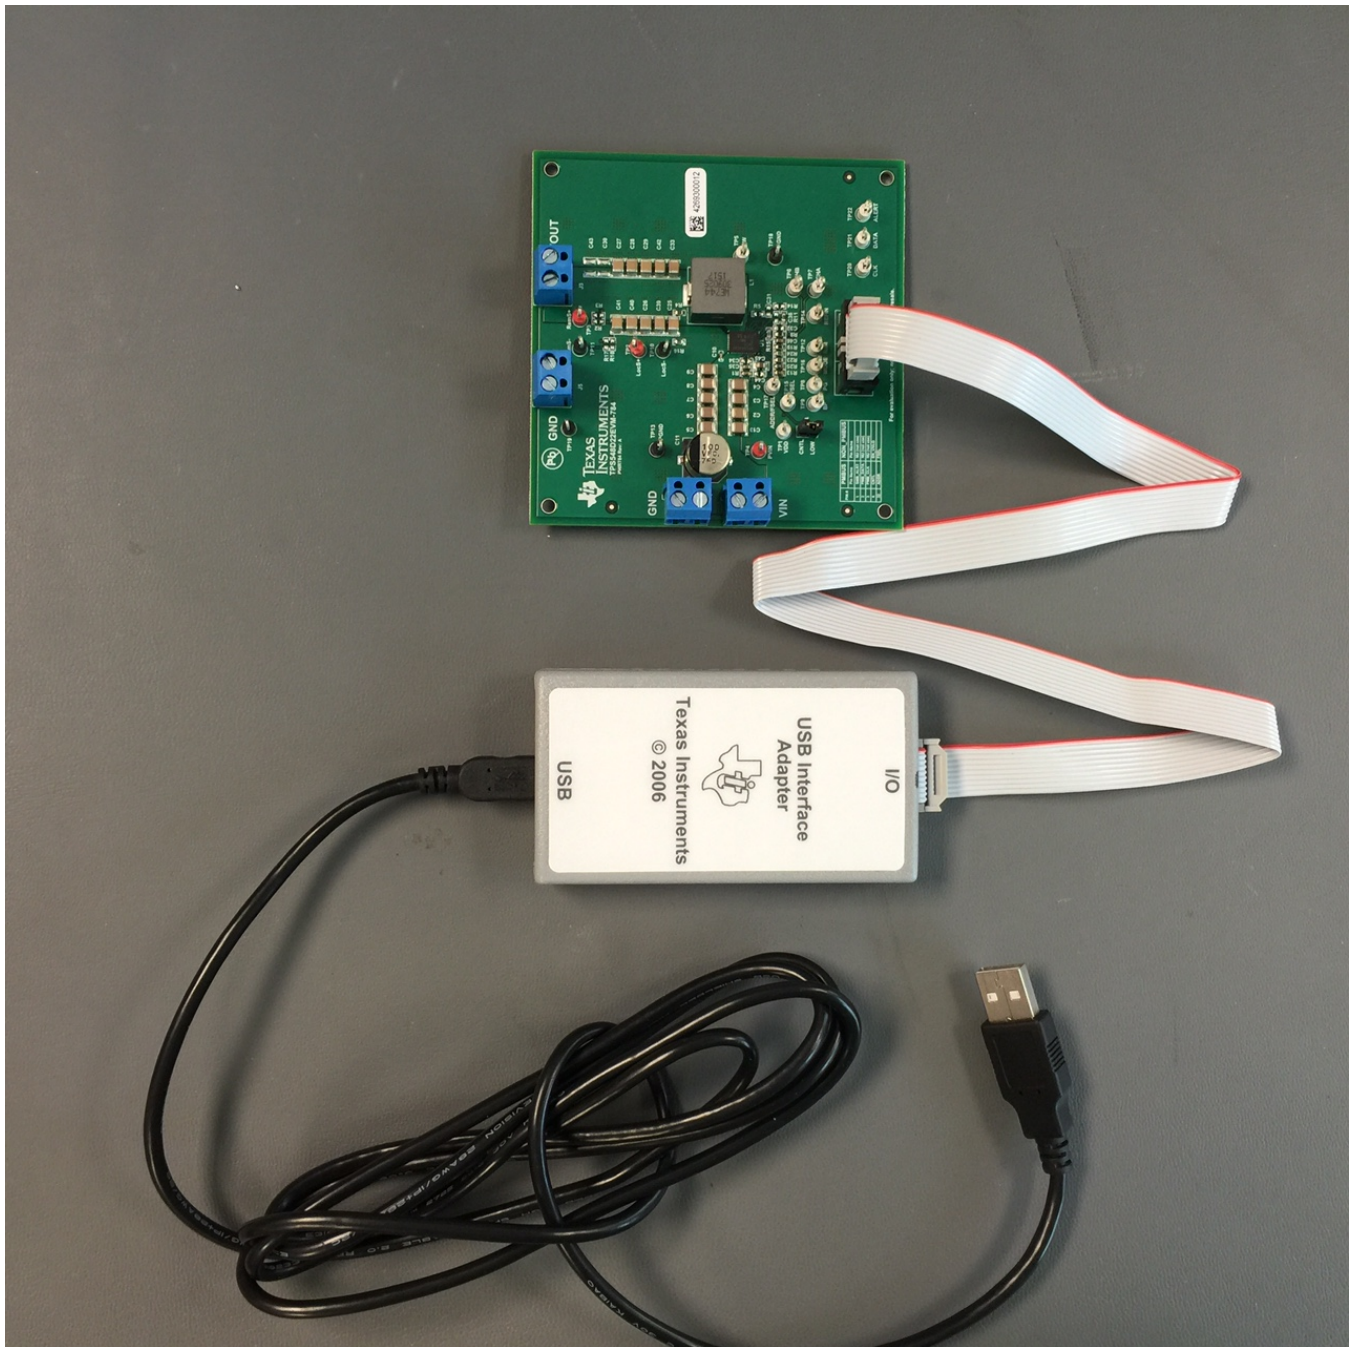

Figure 4. EVM and USB Interface Adapter
Figure 4 illustrates the EVM and USB interface adapter.
4. Connect the USB interface adapter as shown in Figure 4.